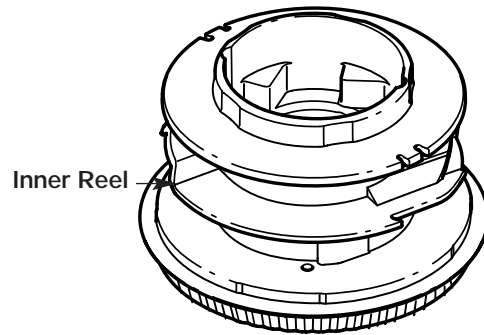

Fig. 27
4. Remove any existing line from the inner reel before cleaning. Remove any debris or grass from the knob, spring, inner reel and foam seal. Wash the inner reel with warm soapy water (Fig. 27).